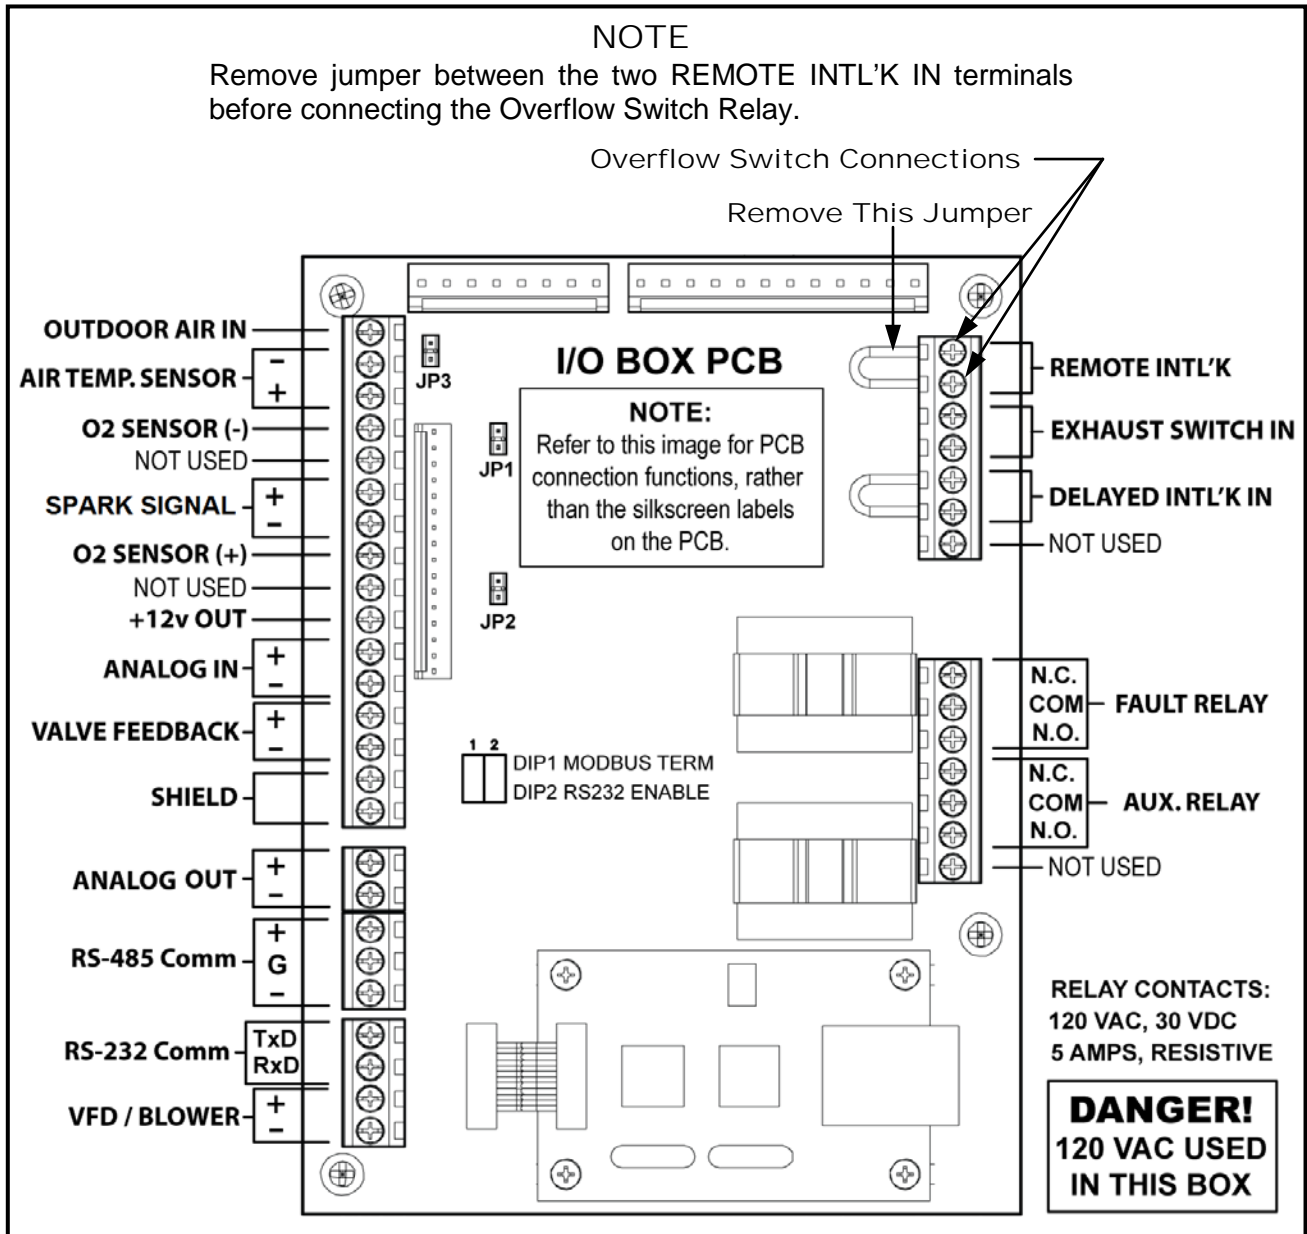
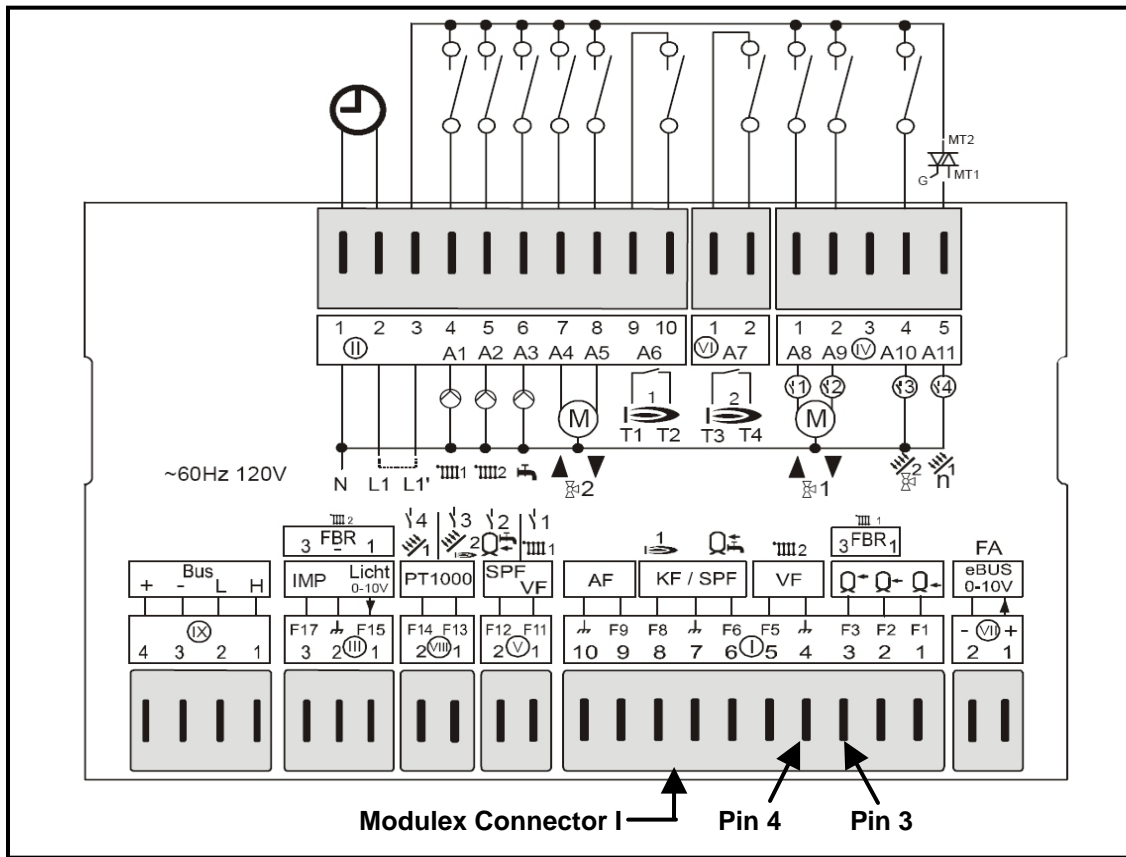
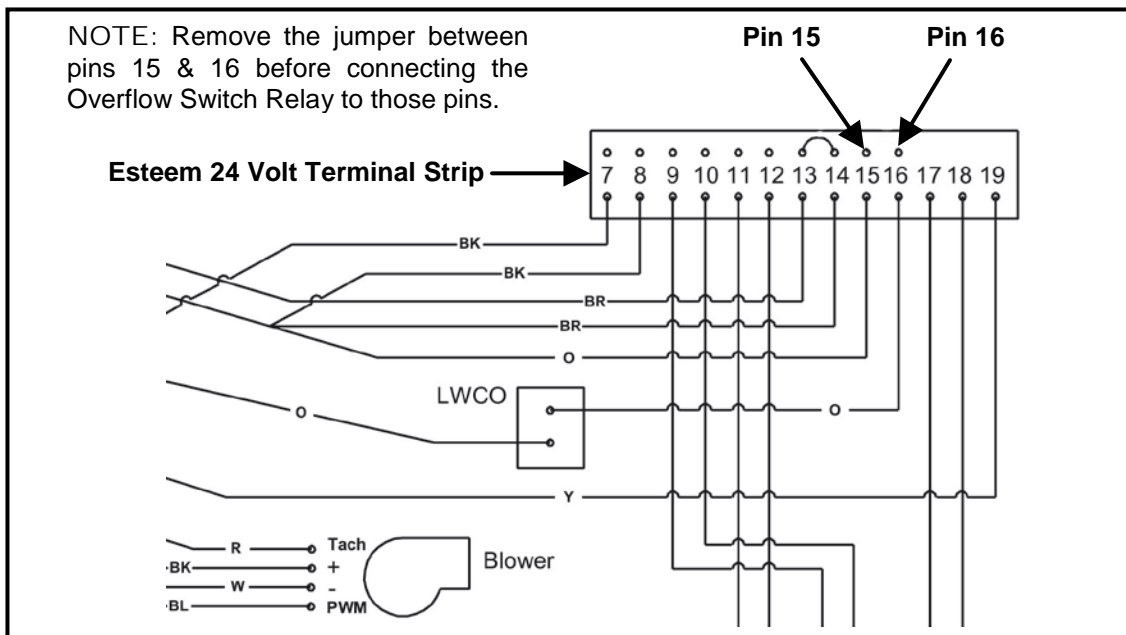

Figure 5: C-More Controller I/O Overflow Switch Relay Connection Points (for KC1000, Benchmark, Innovation, and RECON Units)
Figure 6: Modulex E8 Controller Overflow Switch Relay Connection Points
Figure 7: Esteem Overflow Switch Relay Connection Points
- 2) A condensate pump is used to lift the condensate from the appliance to the neutralization kit (Figure 6). The maximum condensate lift shall not exceed 5ft.
If there is a pit on the floor below the appliance that can accommodate the AERCO condensate neutralizer kits, they can be arranged in the pit in a similar cascading method as Figure 6 without the pump).
The condensate pump must be equipped with an over flow switch to prevent the appliance from running should a failure occur. The over flow switch must be wired to the Remote Interlock of the AERCO boiler/water heater I/O Box for KC1000, Innovation, and Benchmark units (see Figure 5); Pins 3 and 4 of Connector I on Modulex E8 controller (see Figure 6); pins 15 and 16 of the 24V terminal strip on Esteem boilers (see Figure 7).